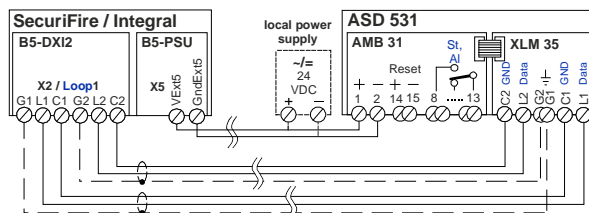

Fig. 38 Connection from XLM 35
- The connection and line routing between **XLM 35** and the SecuriFire and Integral FACP is to be carried out in accordance with Fig. 38 (L1 to L1, C1 to C1 etc.).